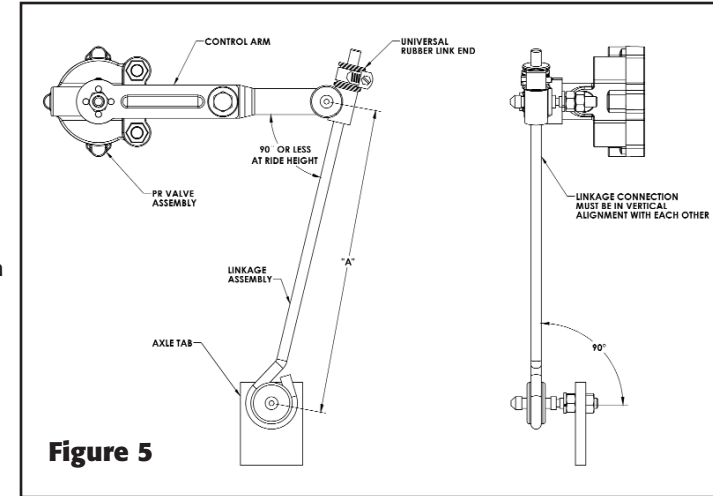

Figure 5
8. With the suspension at ride height and the HCV control arm at center position, determine the location of the lower linkage tab. A typical PR HCV and linkage assembly are shown in **Fig. 5**. Note the recommended angles between the HCV and linkage connection before installing the bottom linkage tab.
9. Damage to the valve, linkage and other suspension components may result if the recommended angles are not followed. Measure the distance from the control arm linkage mounting hole to the axle tab bracket mounting hole (**Dim. "A" - Fig. 5**). This is the required linkage length.